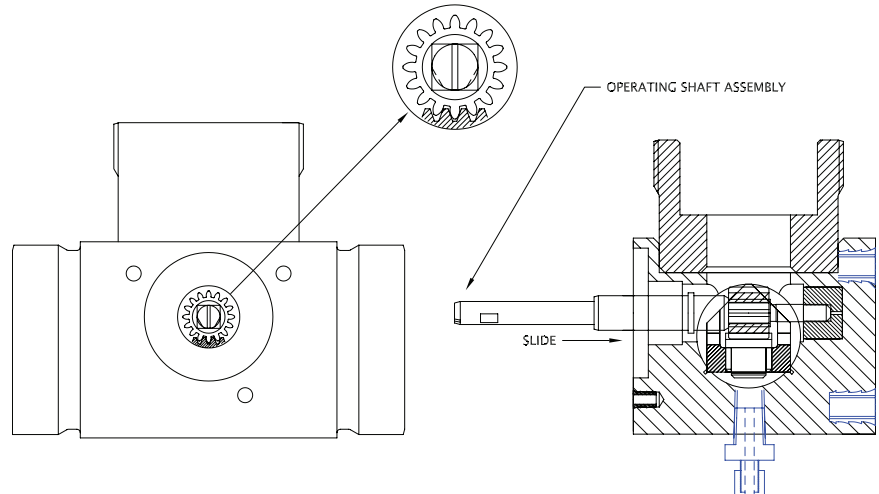

Figure 4.2 - Installing Operating Shaft Assembly
- i. Insert the operating shaft assembly [consisting of the shaft (10) and the pinion gear (9)] into the operating shaft bore of the body assembly (refer to Figure 4.2). Take care to position the shaft assembly (as shown in the detail of Figure 4.2) prior to insertion. The pinion gear should engage the rack gear (27) as shown, with the slot in the shaft (10) vertical, the flats on the shaft facing down and the rack gear centralized. Continue to insert the shaft until it bottoms on the lower teflon bushing in the body assembly.